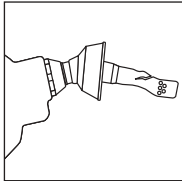

Figure 10
- Spout and shut off port may be damaged. (See Figure 10)